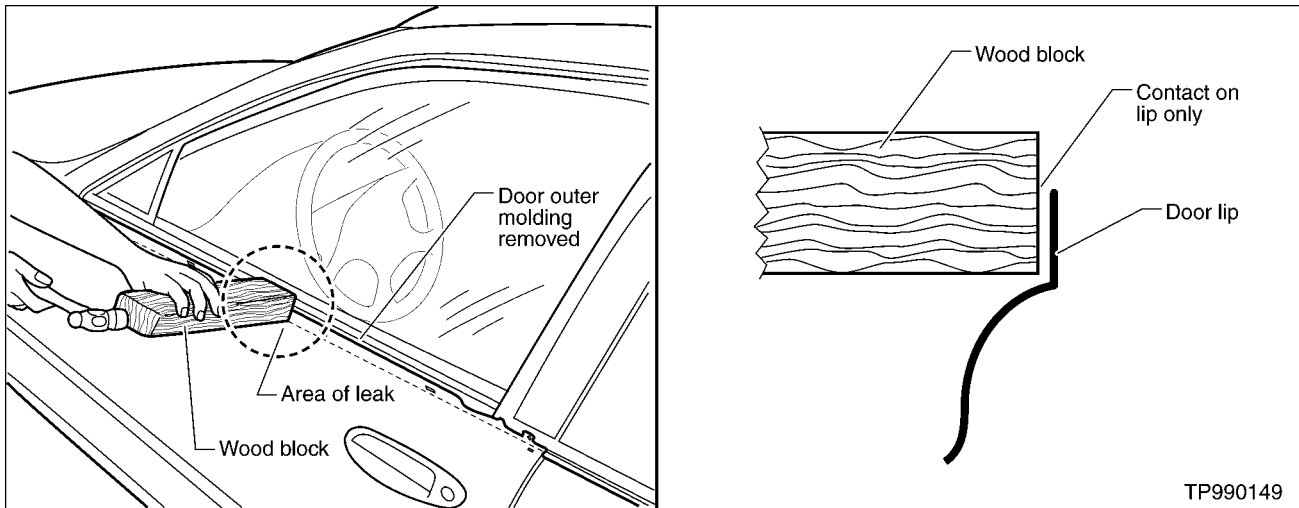

Figure 10. Door Lip Adjustment
- 3. Using a block of wood, drive the door lip slightly inwards at the position of the leak (see Figure 10) to obtain molding contact with the window.